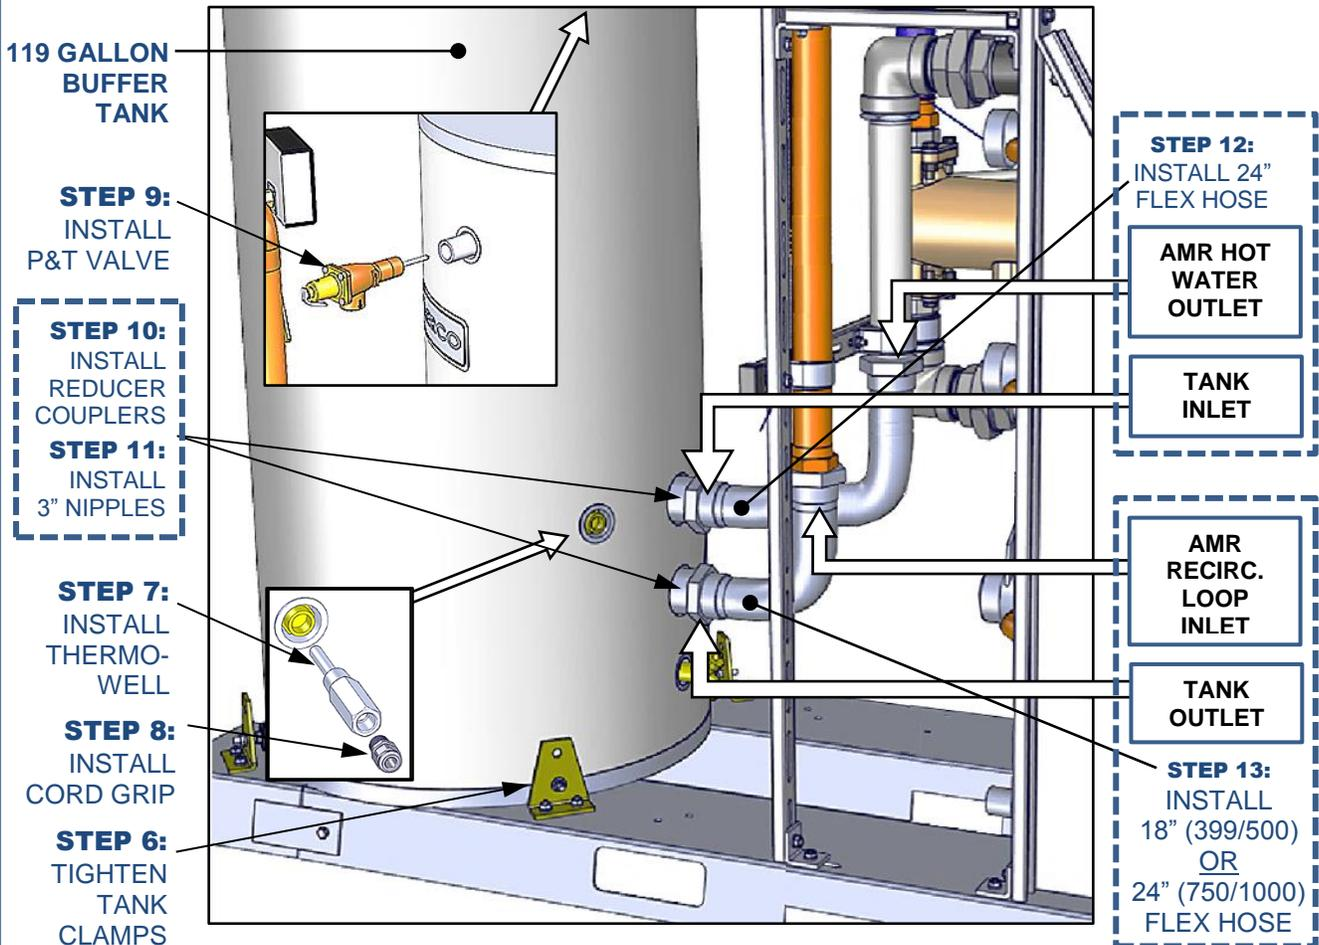

Figure 3-16: AMR 119-Gallon Tank Installation and Components
5. Center the tank as shown in Figure 3-15. Ensure that the water connections are facing the rear of the AMR water heater as indicated in Figure 3-16.
6. Tighten all four tank clamps against the tank (Figure 3-16).
7. Install the thermowell (P/N 49263) into the lower port on tank (see Figure 3-16) with pipe dope, then put heat conducting compound (P/N 122848) inside the thermowell.
8. Put the temperature sensor probe through the cord grip (P/N 62005) and then insert the sensor fully into the thermowell (see Figure 3-16). Screw the cord grip into the thermowell and then tighten cord grip to secure the temperature sensor probe in the thermowell.
9. Install pressure relief valve (P/N 92129) into upper port of tank using appropriate pipe dope (such as Loctite 567). Valve outlet should point downwards (Figure 3-16).
13. Connect 18" or 24" (see NOTE) flex hose between nipple in the tank OUTLET and AMR recirculation loop INLET (Figure 3-16).